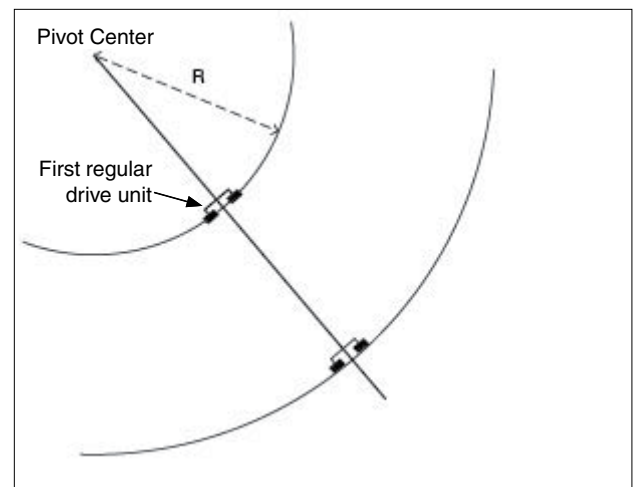

Figure 27-3
6. Measure the distance in feet from the center of the pivot to the center line of the tire on the first regular drive unit. This distance is R. Refer to Figure 27-3.